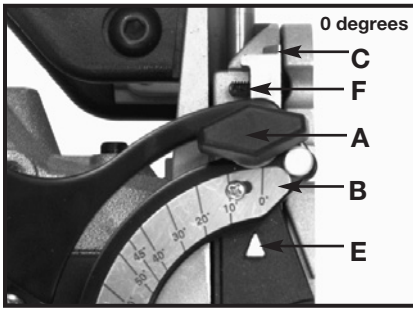

Fig. 6
### Angle Adjustment (see Figs. 6, 7, 8 & 9)
The adjustable 90° stop is factory adjusted for 90° and should not require additional adjustment. If “fine tuning” of the stop position is required: use a  $\frac{5}{64}$ " hex wrench (not furnished), to rotate set-screw (F) Fig. 6, as required. Rotate the set-screw clockwise to reduce the angle of the fence, rotate the set-screw counterclockwise to increase the angle of the fence.